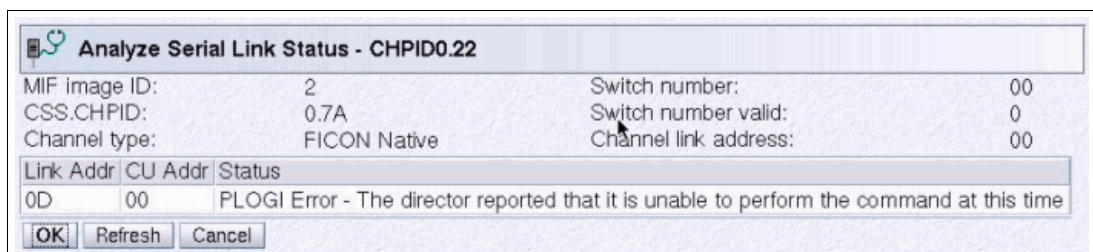

Figure E-16 New PLOGI Initialization message
**Note:** The latest implementation of the System z Server SE Problem Determination facility improves the PLOGI and FLOGI error messages substantially. With this new implementation the panel will show, in plain English, what went wrong during the CU link initialization. Figure E-16 on page 449 shows one of the new messages issued when initialization failures occur.